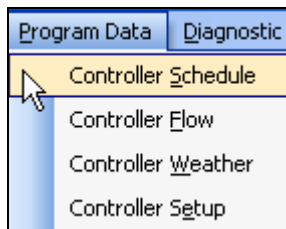

Figure 16.1.1C
1. In the toolbar at the top of the screen select **Program Data** and then scroll down to the words **Controller Schedule** and click on it (Figure 16.1.1C).